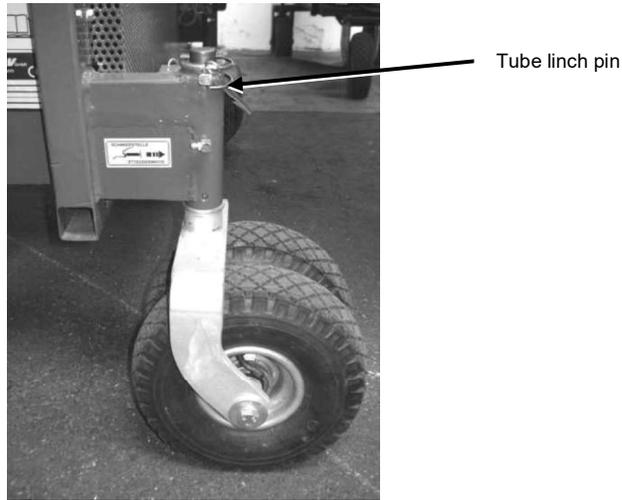

Fig. 31: Pivot wheel
1. Turn the pivot wheels to the rear and secure them with the appropriate tube lynch pins (see Fig. 31).